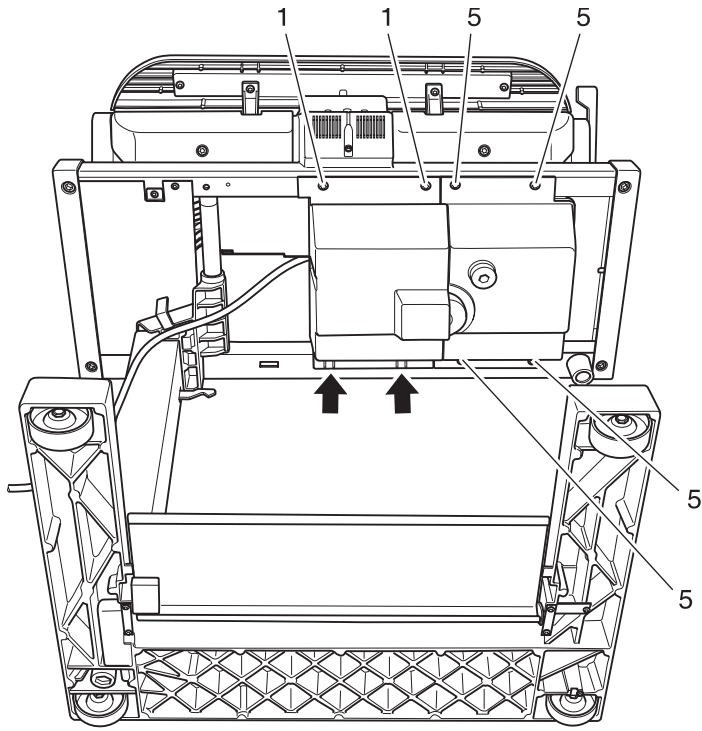

Fig. 14
- Remove screws 1 from the cover plate (fig. 14).